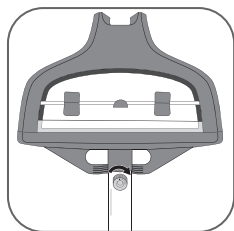

fig. 9
4. Put the screw back and screw in as far as it will go so that the hanger is firmly fixed to the pole. (fig. 9)